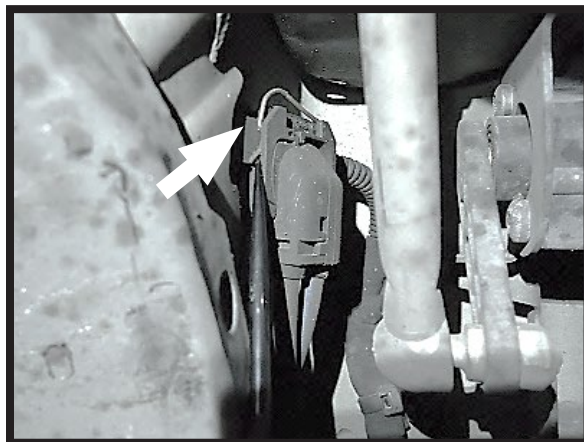

FIGURE 10-5
4. LOCATE THE AIR STRUT'S ELECTRICAL CONNECTOR AND REMOVE RETAINING CLIP. (FIGURE 10-5)